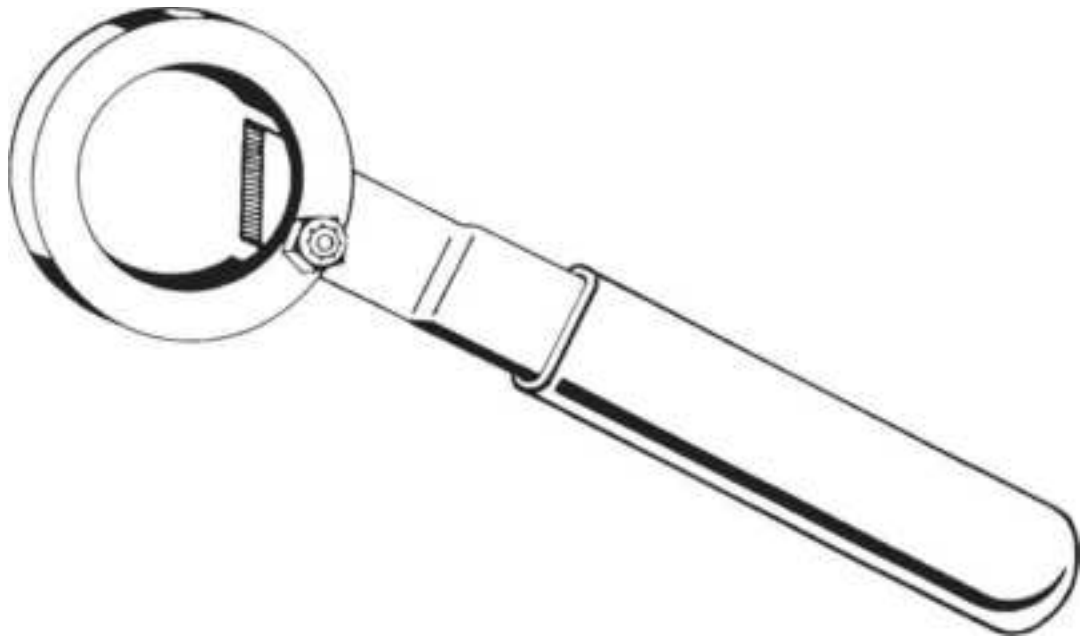

**Figure 2.18** A cylinder removal tool makes it easy to remove stubborn mortise cylinders without stripping their threads. (*A-1 Security Manufacturing Corp .*)
- Mortise cylinder clamp (Fig. 2.18 )